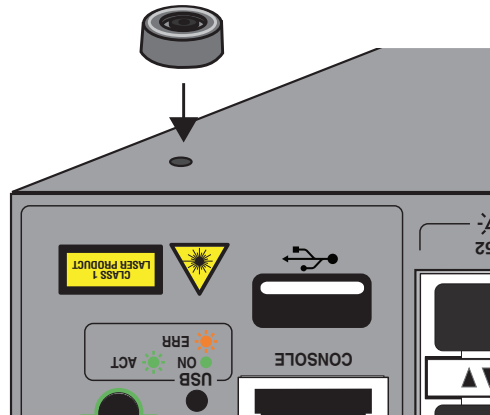

Figure 31. Placing the Bumper Foot on a Base Corner Hole
3. Place the bumper foot with rivet housing onto one of the holes in the base of the switch. Refer to Figure 31.